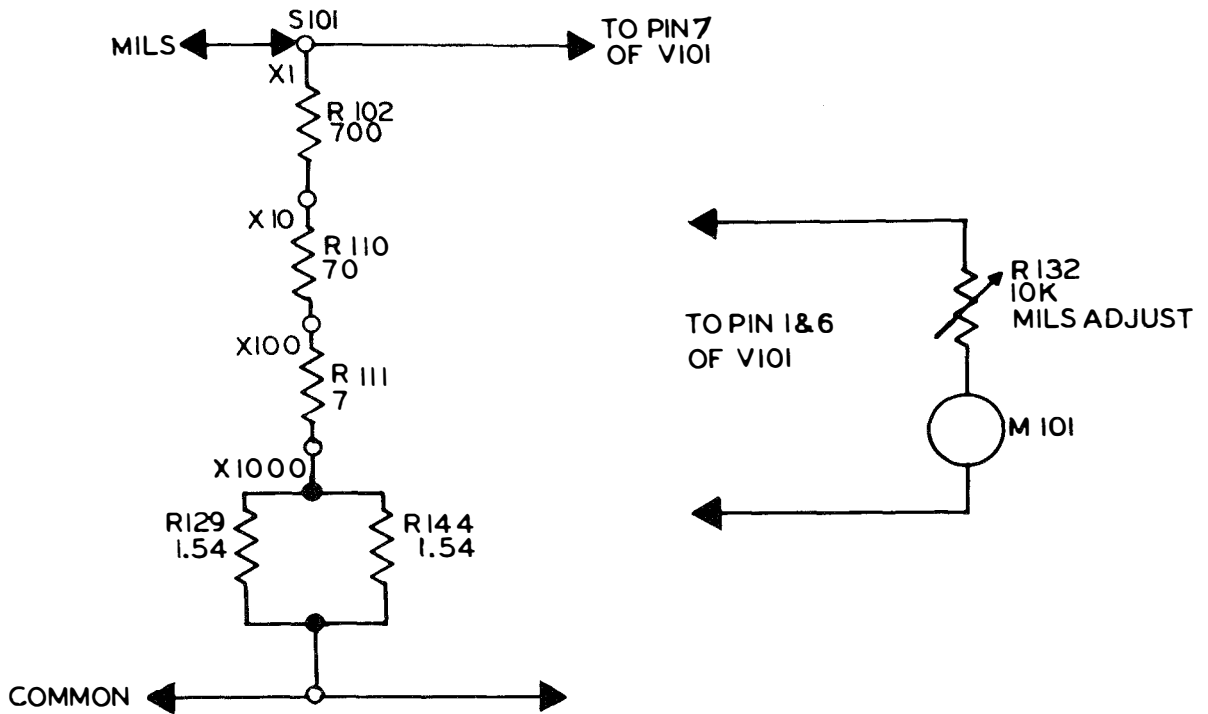

Fig. 2-7. MILLIAMMETER CIRCUIT
f. MILLIAMMETER CIRCUIT. (See Fig. 2-7)
The milliammeter circuit illustrated in Figure 2-7, will measure current to 1000 milliamperes. Current is applied to the voltage divider circuit and the resulting voltage drop is fed to grid (pin 7) of V-101 of the meter circuit. The meter, M-101, is not connected into the circuit as a milliammeter and, therefore, excessive currents accidentally applied will not damage the meter.